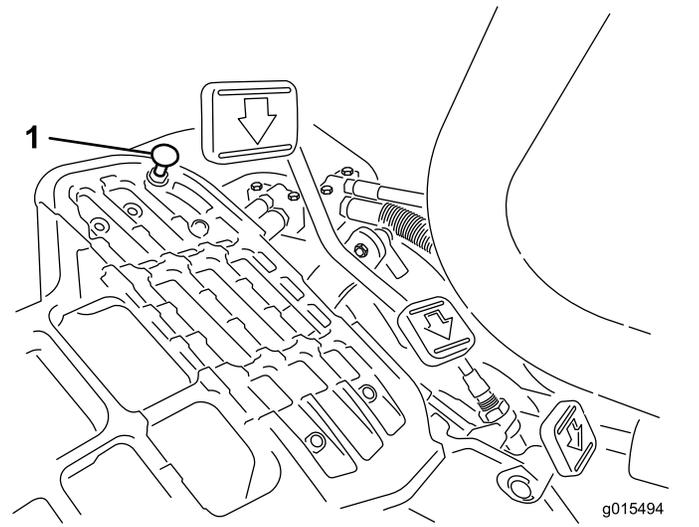

Figure 33
1. Put the functional-control lever in the TRANSPORT position and loosen the locknut securing the pedal stop to the floor plate (Figure 33).
To obtain the maximum-transport speed, put the functional control lever in the TRANSPORT position and press down on the traction pedal. If the pedal contacts the stop (Figure 33) before you feel tension on the cable, perform the following adjustment procedure: